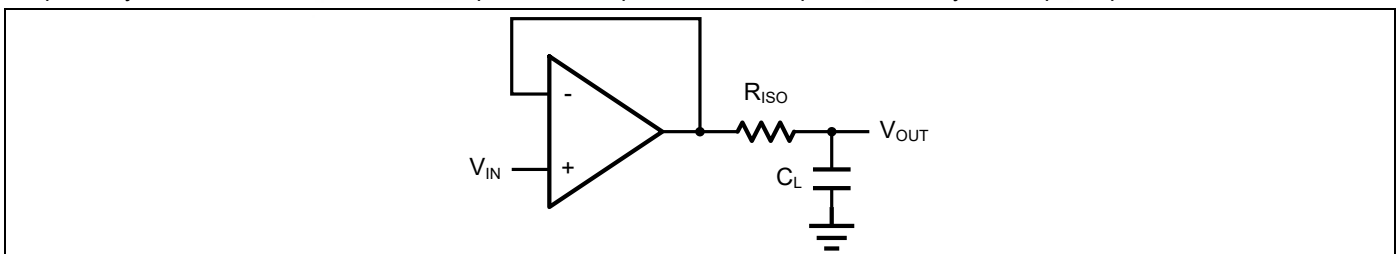
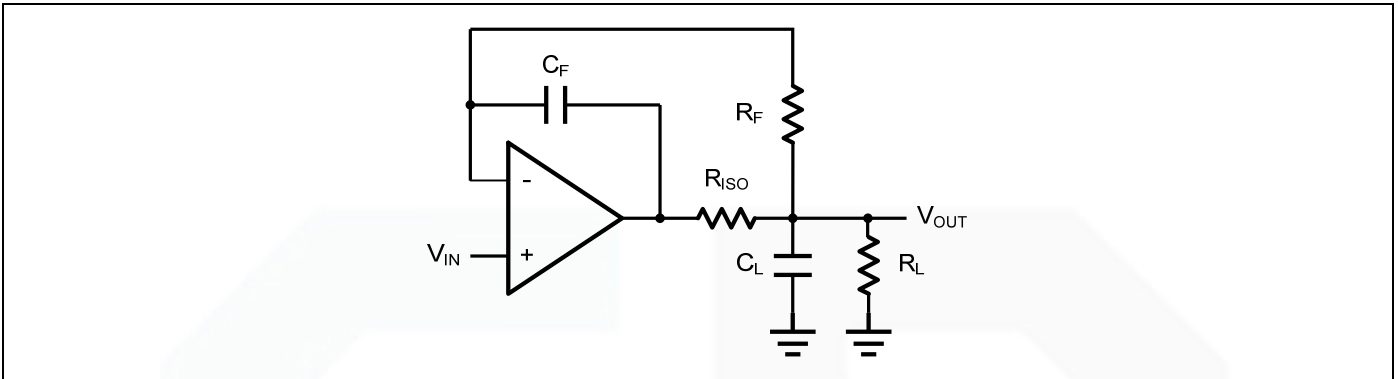

Figure 2. Indirectly Driving a Capacitive Load Using Isolation Resistor
Figure 3. Indirectly Driving a Capacitive Load with DC Accuracy
The LMV321A/V358A family is optimized for bandwidth and speed, not for driving capacitive loads. Output capacitance will create a pole in the amplifier's feedback path, leading to excessive peaking and potential oscillation. If dealing with load capacitance is a requirement of the application, the two strategies to consider are (1) using a small resistor in series with the amplifier's output and the load capacitance and (2) reducing the bandwidth of the amplifier's feedback loop by increasing the overall noise gain. Figure 2. shows a unity gain follower using the series resistor strategy. The resistor isolates the output from the capacitance and, more importantly, creates a zero in the feedback path that compensates for the pole created by the output capacitance.
The circuit in Figure 3 is an improvement to the one in Figure 2. R_F provides the DC accuracy by feed-forward the V_{IN} to R_L . C_F and R_{ISO} serve to counteract the loss of phase margin by feeding the high frequency component of the output signal back to the amplifier's inverting input, thereby preserving the phase margin in the overall feedback loop. Capacitive drive can be increased by increasing the value of C_F . This in turn will slow down the pulse response.